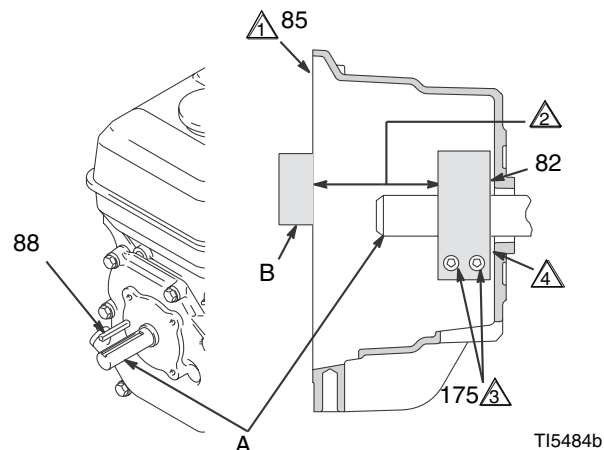

FIG. 9
4. FIG. 9. Loosen two screws (175) on clamp (82),
5. Push screwdriver into slot in clamp (82) and remove clamp.
1. FIG. 9. Install engine shaft key (88).
2. Tap clamp (82) on engine shaft (A) with plastic mallet. Maintain dimension shown note 2. Chamfer must face engine.
3. Check dimension: Place rigid, straight steel bar (B) across face of clutch housing (5). Use accurate measuring device to measure distance between bar and face of clamp. Adjust clamp as necessary. Torque two screws (175) to 125 +10 in-lb (14 +1.1 N•m).